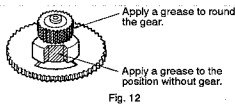

Fig. 12
- ① Grease the follow gear. (Fig.12)